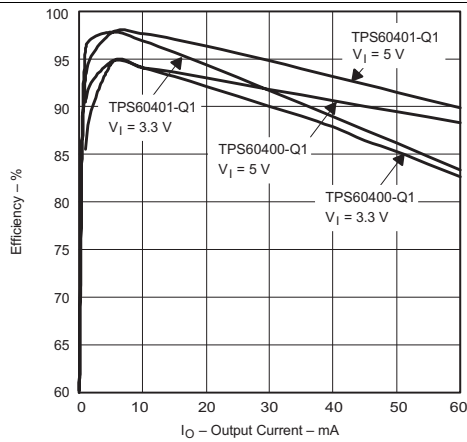

Figure 1. TPS60400-Q1, TPS60401-Q1 Efficiency vs Output Current
<ul style="list-style-type: none"> • Added Device Information table, ESD Ratings table, Feature Description section, Device Functional Modes, Application and Implementation section, Power Supply Recommendations section, Layout section, Device and Documentation Support section, and Mechanical, Packaging, and Orderable Information section..... • Changed TPS6040x to TPS6040x-Q1 throughout document • Added AEC-Q100 Test Guidance bullets..... • Changed Input voltage range throughout document to 1.8 V to 5.25 V..... • Changed input voltage 5.5 V to 5.25 V. • Added device options TPS60401/2/3-Q1 • Deleted Available Options table and moved device family products section and renamed to Device Comparison Table.... • Changed reference to Thermal Information • Deleted Machine model (MM) from ESD Ratings table..... • Added table note to reference values • Deleted Dissipation Ratings section and replaced with Thermal Information table • Changed Figure 1 and Figure 2 Output Current limit to 60 mA • Split equation (1) into two separate numbered equations • Moved equation definitions to corresponding equation • Deleted Voltage Inverter title • Deleted Table 4 and Table 5 manufacturer part information • Moved Figure 21 and 22 to Application Curves section..... 	<p>1</p> <p>1</p> <p>1</p> <p>1</p> <p>1</p> <p>1</p> <p>3</p> <p>3</p> <p>4</p> <p>4</p> <p>5</p> <p>6</p> <p>11</p> <p>11</p> <p>13</p> <p>13</p> <p>15</p>